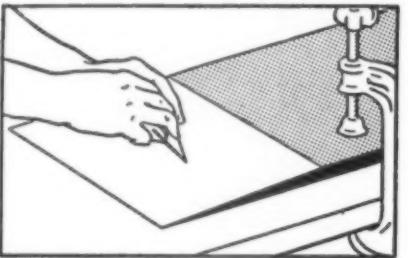

Figure 6
- Remove high spots with belt scraper and finish to feather edge so that the completed lap will be same thickness as body of the belt (Fig. 6).